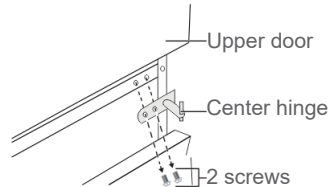

Fig. 4
3. Remove the center hinge after removing its two screws (→ Fig. 4).